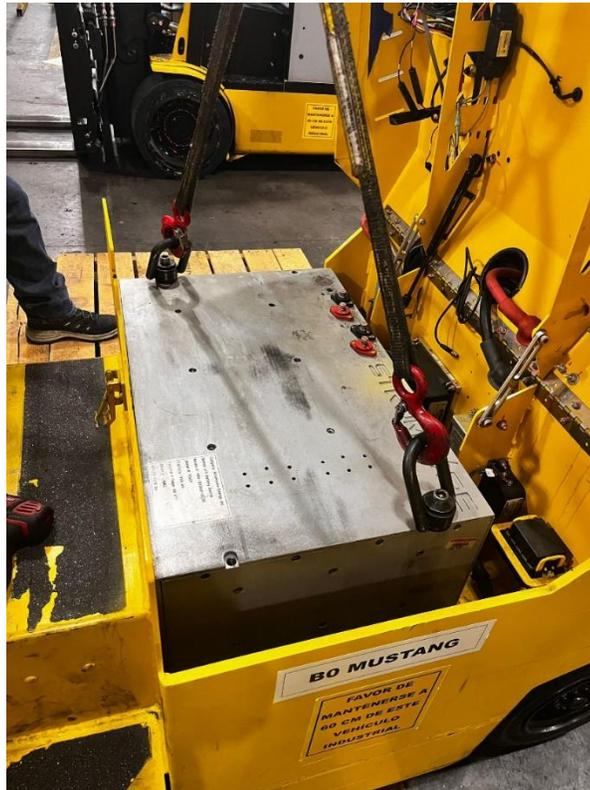

Figure 10: Image of truck with Stromcore Battery installed. Ports are facing upwards.
- The ports will face upwards (Figure 10).
- The ports will face upwards in the truck's compartment (Figure 10).
13. Slowly lower the battery into the 2nd forklift's empty compartment (Figure 10).